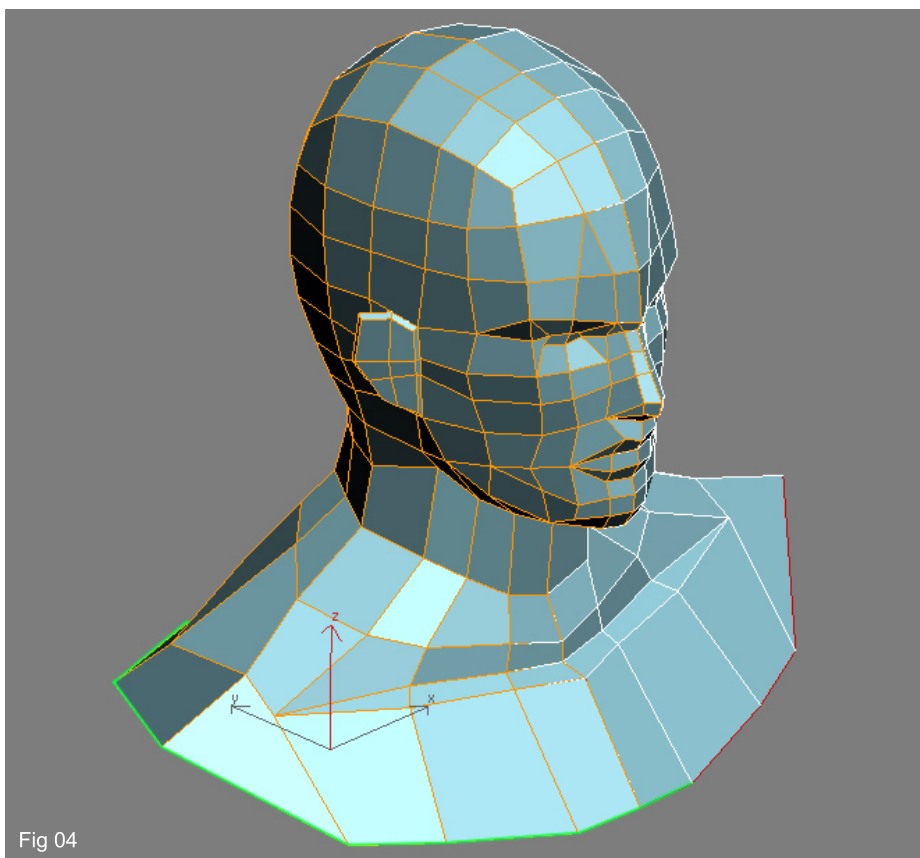

Fig 04
4. Now once again select this bottom row of edges and "Shift copy" them down and re-arrange the new verts to form a better shape (Fig04). It is a good rule of thumb that whenever you add more detail by way of copying edges or adding subdivisions you should move the new verts into suitable positions before adding any new edges. It can save time and is a lot easier to work this way.